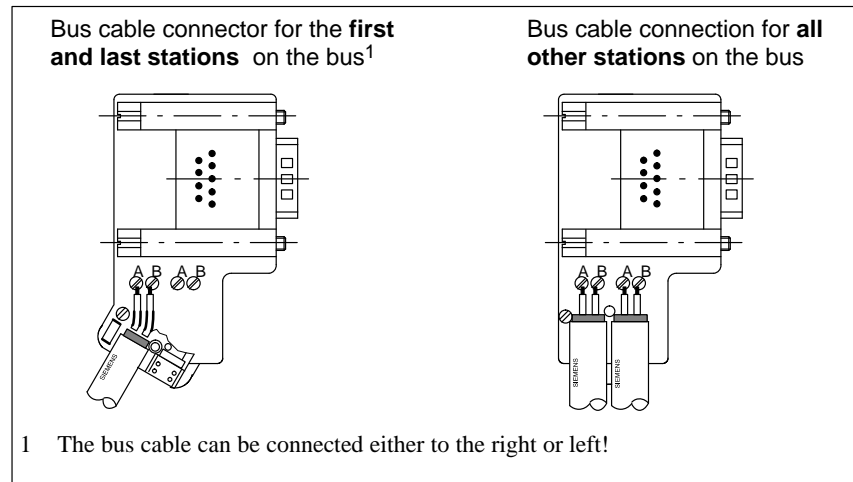

Figure 3-11 Fitting the Bus Connector (6ES7 972-0B.20 ...) to the LAN Cable
5. Fit the green and red wires into the screw terminal as shown in Figure 3-11.